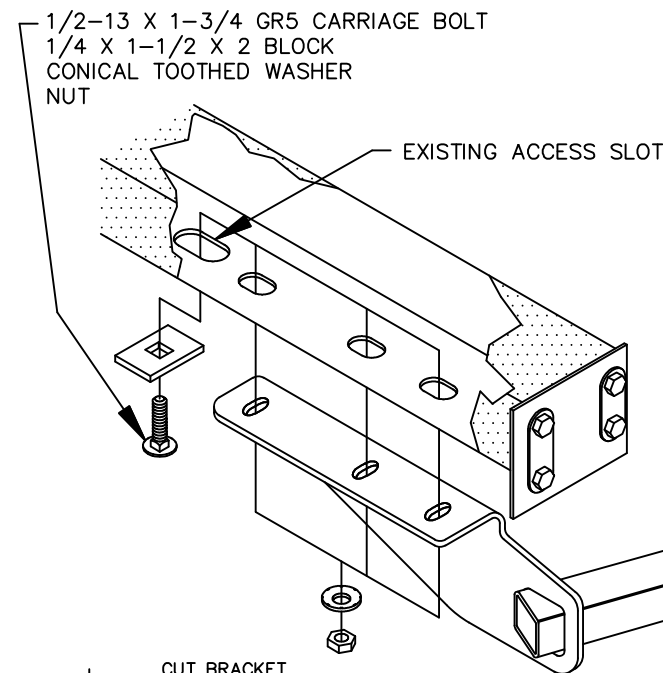

FIGURE 2
2. CUT HANGER BRACKET AS SHOWN IN FIGURE 2.